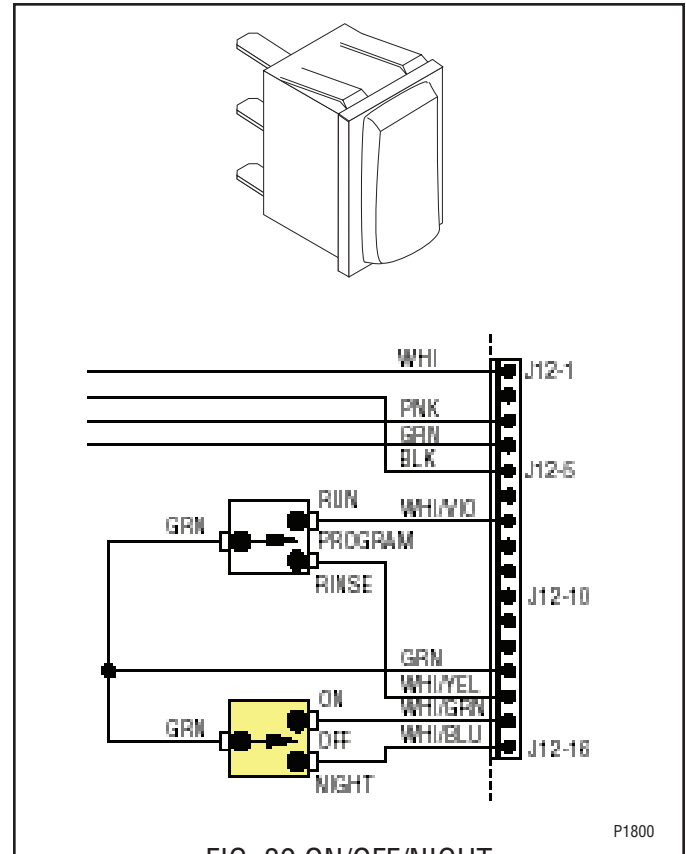

FIG. 39 ON/OFF/NIGHT SWITCH TERMINALS
4. Refer to Fig. 39 when reconnecting the wires.